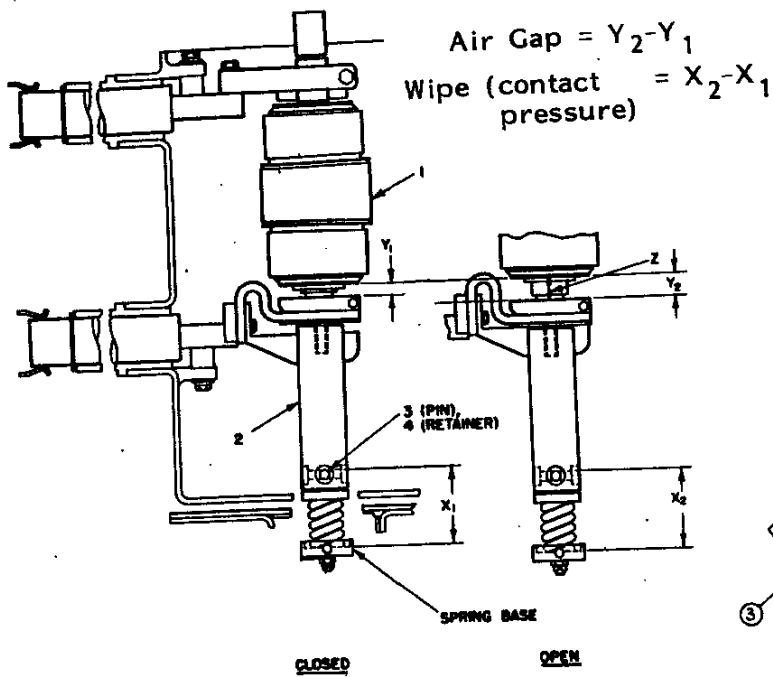

Fig. 5
3. CONTACT WIPE (CONTACT PRESSURE) (SEE FIG. 5). THE CONTACT AIR GAP AND CONTACT WIPE IS SET AT THE FACTORY BY SETTING THE VERTICAL POSITION OF THE INTERRUPTER (1) AND THE VERTICAL POSITION OF THE PUSHROD (2). THESE PARTS SHOULD NOT BE REPOSITIONED IN THE FIELD UNLESS A PUSHROD CHANGE IS REQUIRED TO CORRECT CONTACT SEQUENCE AS DESCRIBED ELSEWHERE. CONTACT WIPE IS SET AT THE FACTORY AT .11 MINIMUM. CONTACT EROSION AND WEAR IN MECHANICAL PARTS WILL CAUSE A REDUCTION IN CONTACT WIPE OVER THE LIFE OF THE BREAKER AND A CHECK SHOULD BE MADE TO INSURE THAT THE WIPE IS NOT LESS THAN .020". THE MEASUREMENT IS MADE AS FOLLOWS FOR THE THREE POLES:
4. CONTACT AIR GAP (SEE FIG. 5). THE CONTACT AIR GAP IS SET AT THE FACTORY AT THE NOMINAL DIMENSION OF .43. THIS VALUE WILL NORMALLY INCREASE AS THE CONTACTS ERODE. A CHECK OF THE CONTACT AIR GAP CHECKS THAT THE BREAKER DOES OPEN FULLY AND THAT THE GAP IS SUFFICIENT TO WITHSTAND THE APPLIED VOLTAGE. THE MEASUREMENT IS MADE AS FOLLOWS FOR THE THREE POLES.
5. CONTACT SEQUENCE (SEE FIG. 5). ALL THREE POLES SHOULD TOUCH WITHIN 2 MILLISECONDS AT NORMAL CLOSING SPEEDS. AN OSCILLISCOPE, OSCILLOGRAPH OR OTHER TIMING METHOD MAY BE USED TO ESTABLISH THE 2 MILLISECOND TIMING.